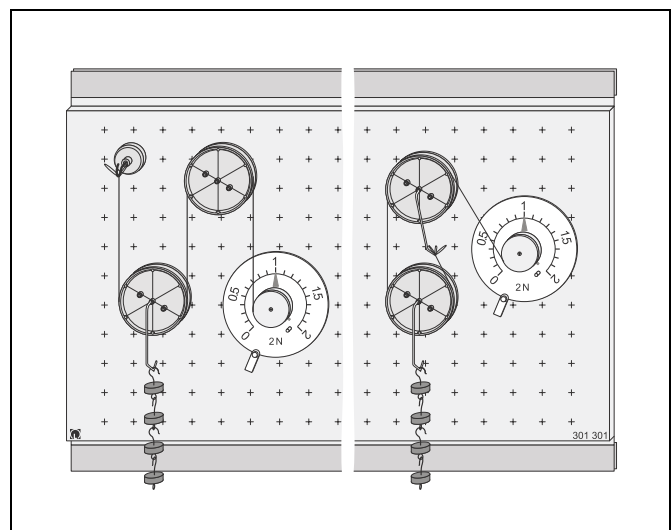

Fig. 4 Experimental setup with fixed and loose pulley
- Lay the demonstration cord – as shown on the left of Fig. 4 – starting from the hook around the loose and the fixed pulley to the round dynamometer.
- Equip the first pulley with a load hook as well, and attach the demonstration cord to it with a loop (see right-hand side of Fig. 4).